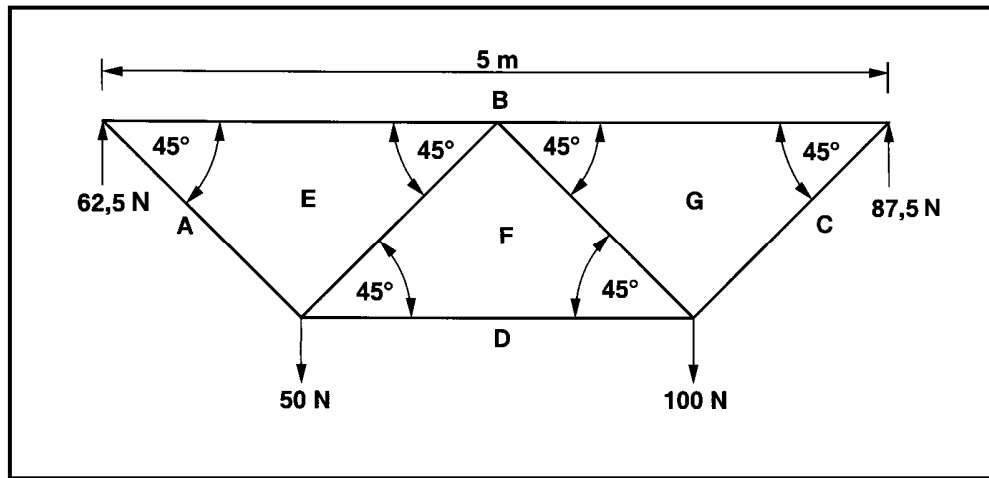

FIGURE 5.2
5.2 FIGURE 5.2 below shows the space diagram of a framed roof truss.
- 5.2.1 Analyse FIGURE 5.2 and develop and draw the vector (force) diagram of this frame on ANSWER SHEET 5.2. Use scale 1 mm = 1 N. (9)